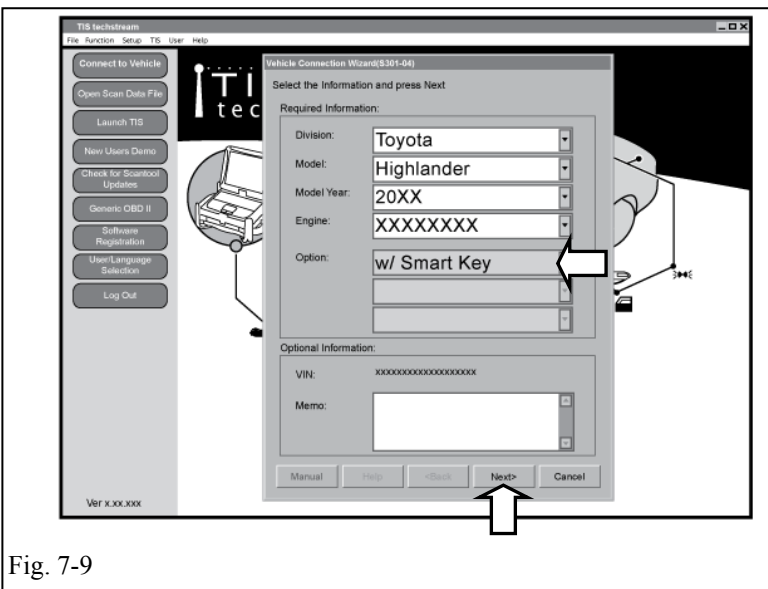

Fig. 7-9
- (n) Confirm that the information displayed on the Vehicle Connection Wizard is correct for the vehicle. If not verify that the Techstream is properly connected. (Fig. 7-9)
- (o) Select w/ Smart Key. (Fig. 7-9)
- (p) Click "Next>." (Fig. 7-9)